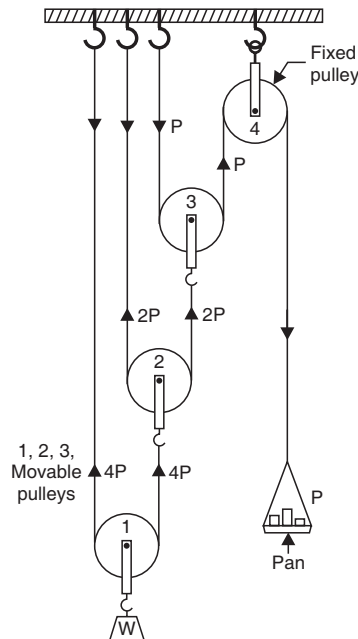

Fig. 9.1. First system of pulleys
**Theory.** Fig. 9.1 shows the pulleys arranged in the first system of pulleys. The upper pulley is fixed to the wooden frame whereas the lower pulleys are movable. The weight to be lifted is hung from the lowest pulley.